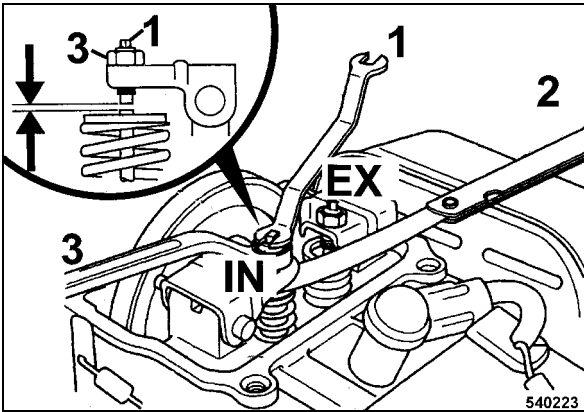

Fig. 46
- Measure the valve clearance between valve adjustment screw and valve with a feeler gauge (2) (Fig. 46).
- To adjust the valve hold valve adjustment screw (1) and slacken locking screw (3).